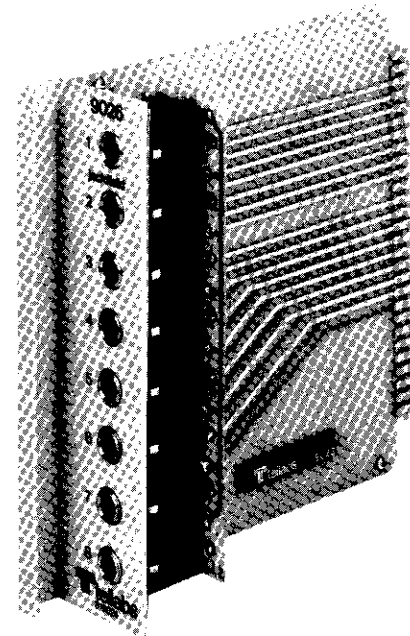

figure 1. 9026 Jackfield module
1.01 The Tellabs 9026 Jackfield Module (figure 1) provides eight Type 310 jacks, each of which may be wired to perform a direct access (opening or splitting) or a monitor (bridging) jack.